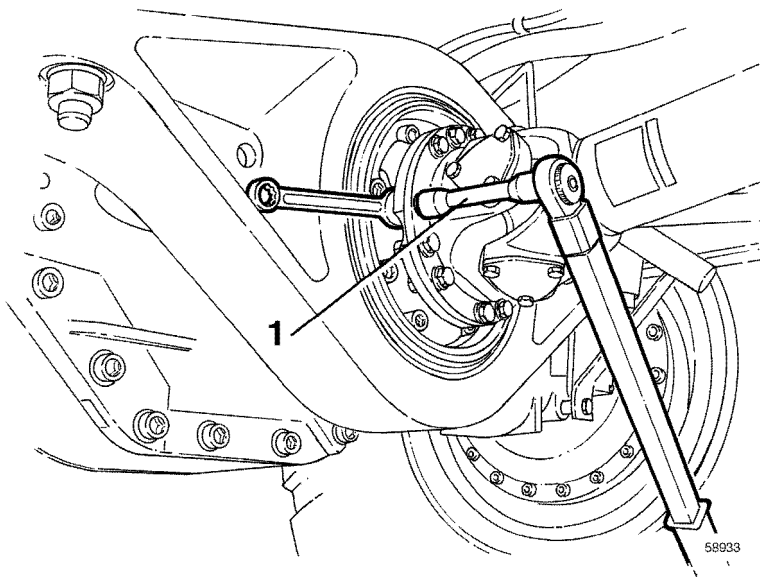

Figure 1
- Connect the propeller shaft to the rear axle, see **Figure 1**.